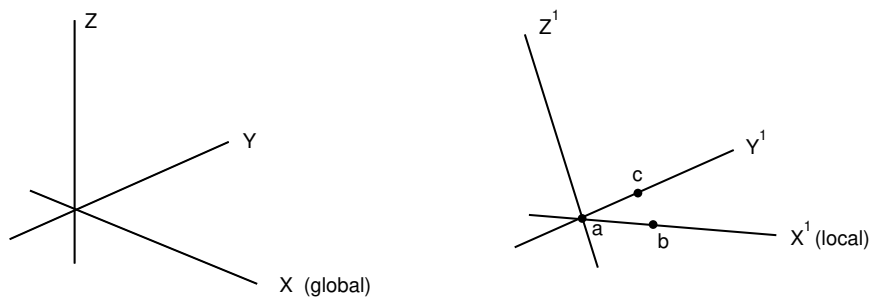

Figure 1: Local coordinate system.
1. X_a , global X-coordinate of the origin of the local coordinate system (point *a* in Figure 1).
9. X_b , global X-coordinate of a point on the X^1 -axis of the local coordinate system (point *b* in Figure 1).
1. X_c , global X-coordinate of a point in the (X^1, Y^1) plane of the local coordinate system, on the side of the positive Y^1 -axis (for example, point *c* in Figure 1).